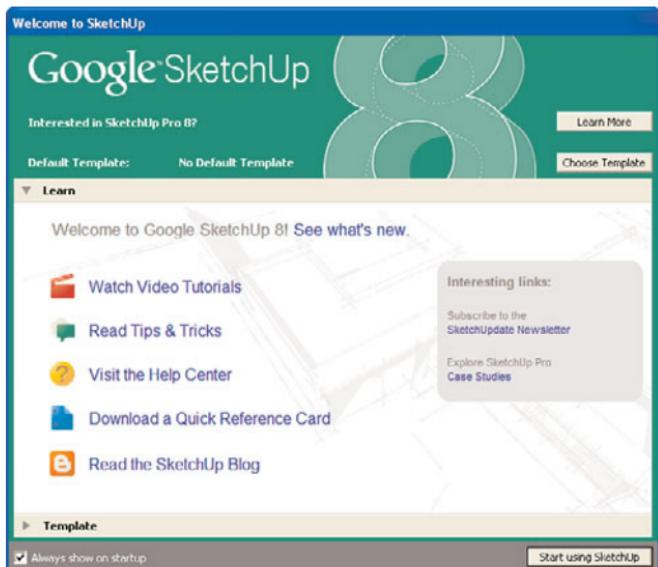

FIGURE 2.5 Starting SketchUp.
1. Double-click the **SketchUp** program file to start it, or, in Windows, select it from the Start menu. The dialog box you see in Figure 2.5 appears.